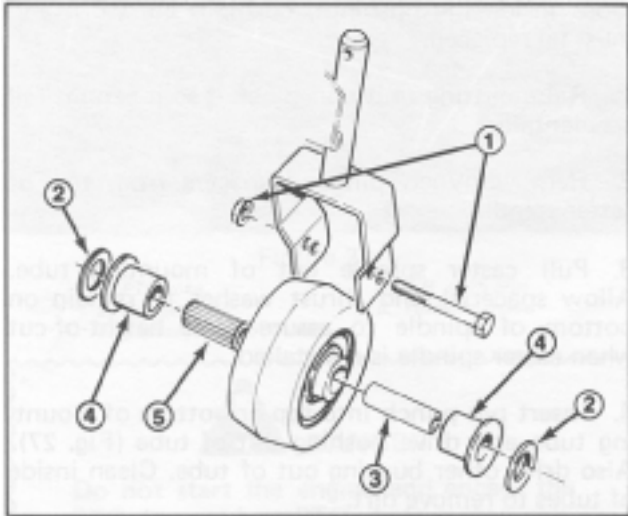

Figure 28
1. Remove capscrew and locknut holding caster wheel and (2) washers between caster fork (Fig. 28).
2. Pull spanner bushing out of wheel hub (Fig. 28).
3. Remove bushing from wheel hub and allow bearing to fall out (Fig. 28). Remove bushing from opposite side of wheel hub.
7. Install caster wheel assembly and (2) washers between caster fork, and secure all parts in place with capscrew and locknut.